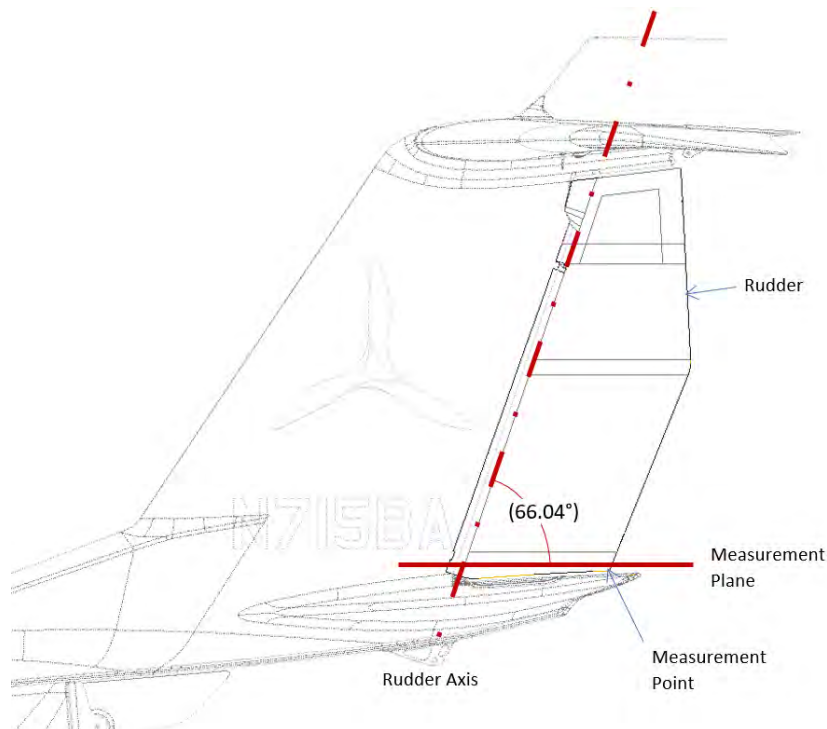

FIGURE 9-53
1. Position the rudder rigging template (ICA013055) or a protractor as shown in Figure 9-53, Center the 0° indication of the rigging template or protractor with respect to the center of the tail section under the rudder.